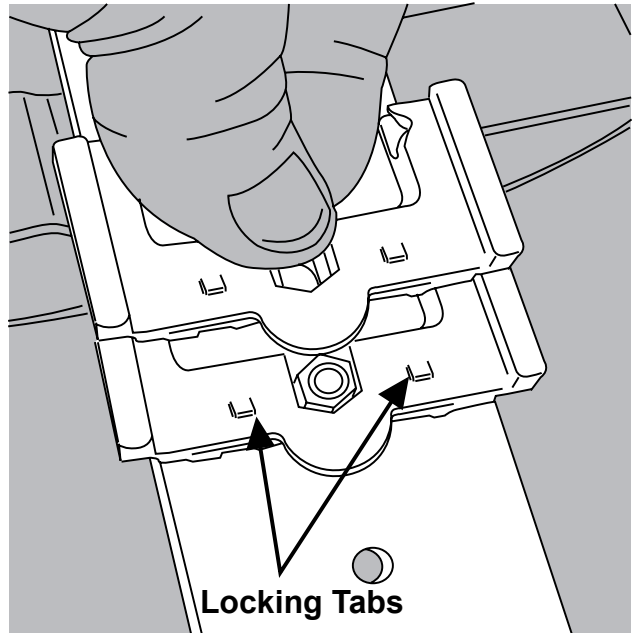

FIGURE 23
23. To stack additional trays, first add another SLIDE-N-LOCK bracket to the one fitted to the mounting plate. Slide into position until the locking tabs are engaged. Additional units can be added up to the recommended SLIDE-N-LOCK splice tray capacity. (Figure 23)